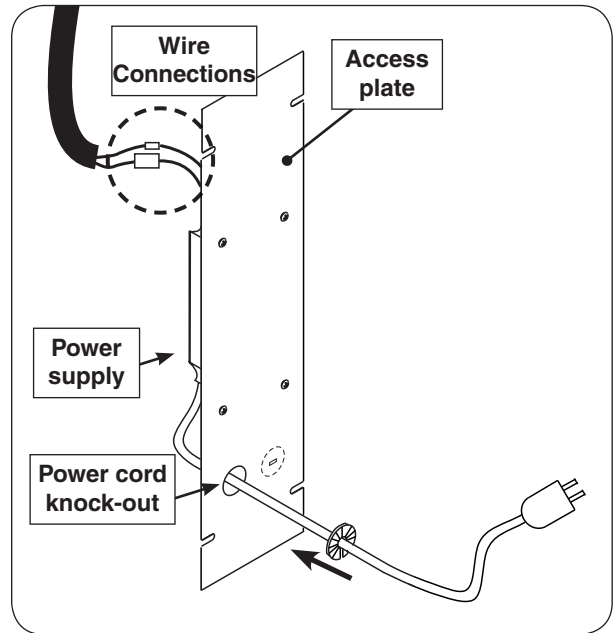

Fig. 18-1 Access plate view & orientation
A power supply is pre-mounted to the access plate. For ease of installation, disconnect the power supply from the wire harness extension. Locate the wires coming from the inside of the post to the power supply and carefully disconnect (see Fig. 18-1 and 18-2).
4. Install the bushing onto the power cord and slide the bushing up against the access plate knock-out hole and snap into place. See Fig. 18-1.